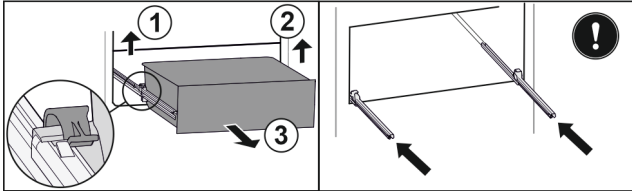

Fig. 128
- ▶ Lift left clamp and simultaneously pull drawer forwards on the left. Fig. 128 (1)
- ▶ Lift right clamp and simultaneously pull drawer forwards on the right. Fig. 128 (2)
- ▶ Remove drawer to the front. Fig. 128 (3)